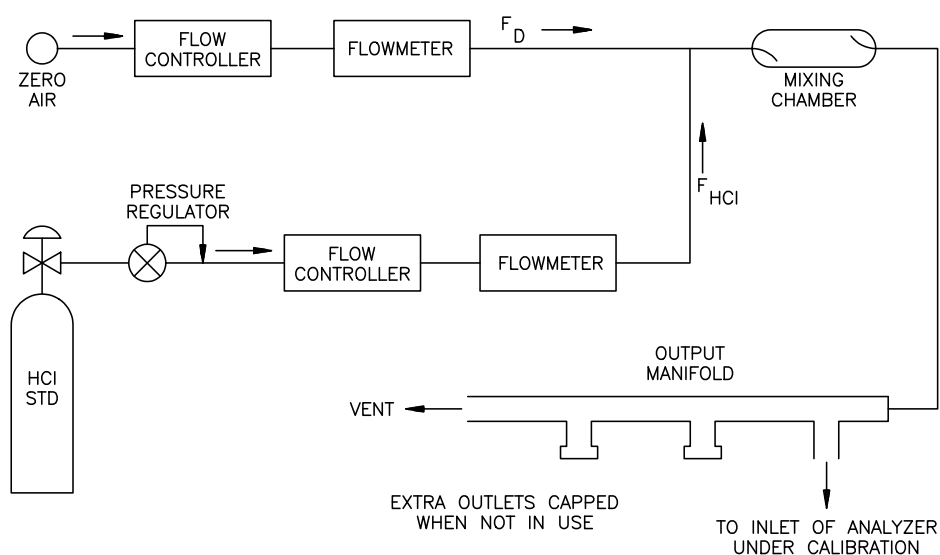

Figure 4-1. Calibration Flow Schematic
Connect the instrument and the calibration equipment as shown in Figure 4-1. If an optional sample line filter is used, the calibration must be performed through this filter. Ensure that the flow rate into the output manifold is greater than the total flow required by the analyzer and any other flow demand connected to the manifold.
2. Adjust the dilution system of Figure 4-1 so that zero air alone is present in the manifold.
2. Periodically challenging the instrument with a HCl level of approximately 80% of the URL. The 80% URL level may be obtained by dilution of a higher level of HCl using a system similar to that of Figure 4-1, or by using a low level cylinder of HCl containing HCl in air at a concentration of approximately 80% of the URL.